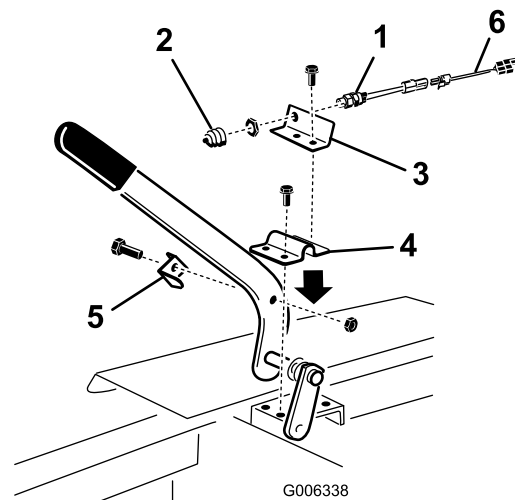

Figure 9
5. Remove the rubber boot and the top jam nut from the button end of the new PTO switch (Figure 9).
6. Insert the button end of the PTO switch through the hole in the PTO switch bracket and loosely secure it to the bracket with the jam nut. Position the switch as shown in Figure 9.
7. Mount the PTO switch bracket to the frame mounting bracket with (2) screws. Position the bracket as shown in Figure 9.
8. Mount the PTO switch actuator bracket to the PTO lever with a cap screw and nut. Position the bracket as shown in Figure 9.
10. Connect the wire harness adapter to the switch wire harness (Figure 9).
11. Reinstall the rubber boot to the top of the switch (Figure 9).